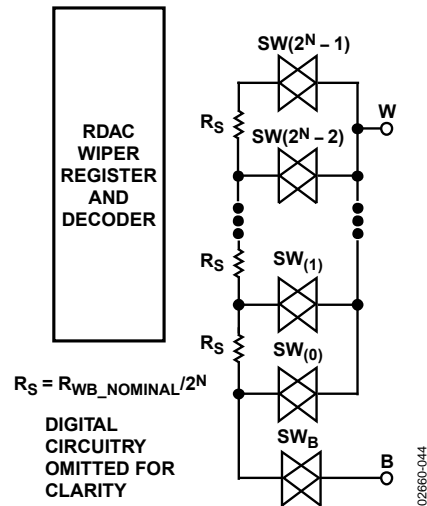

Figure 32. Equivalent RDAC Structure
The RDAC contains multiple strings of equal resistor segments with an array of analog switches that acts as the wiper connection. The number of positions is the resolution of the device. The ADN2850 has 1024 connection points, allowing it to provide better than 0.1% setability resolution. Figure 32 shows an equivalent structure of the connections among the three terminals of the RDAC. The SWB is always on, while the switches, SW(0) to SW(2N - 1), are on one at a time, depending on the resistance position decoded from the data bits. Because the switch is not ideal, there is a 30  $\Omega$  wiper resistance, Rw. Wiper resistance is a function of supply voltage and temperature. The lower the supply voltage or the higher the temperature, the higher the resulting wiper resistance. Users should be aware of the wiper resistance dynamics, if accurate prediction of the output resistance is needed.
The 10-bit data-word in the RDAC latch is decoded to select one of the 1024 possible settings. The following description provides the calculation of resistance,  $R_{WB}$ , at different codes of a 25 k $\Omega$  part. The first connection of the wiper starts at Terminal B for Data 0x000.  $R_{WB}(0)$  is 30  $\Omega$  because of the wiper resistance, and it is independent of the nominal resistance. The second connection is the first tap point where  $R_{WB}(1)$  becomes 24.4  $\Omega$  + 30  $\Omega$  = 54.4  $\Omega$  for Data 0x001. The third connection is the next tap point representing  $R_{WB}(2)$  = 48.8  $\Omega$  + 30  $\Omega$  = 78.8  $\Omega$  for Data 0x002, and so on. Each LSB data value increase moves the wiper up the resistor ladder until the last tap point is reached at  $R_{WB}(1023)$  = 25006  $\Omega$ . See Figure 32 for a simplified diagram of the equivalent RDAC circuit.